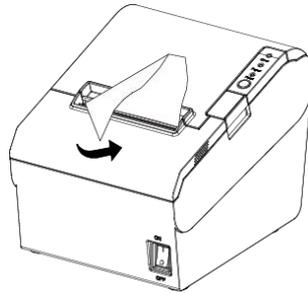

Figure 4.6.4
5) Tear the redundant paper. ( Like figure 4.6.4 )